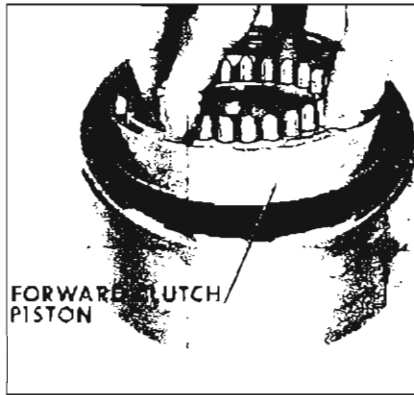

Figure 5-217
9. Lift up on forward clutch piston with a twisting motion and remove. See Figure 5-217.